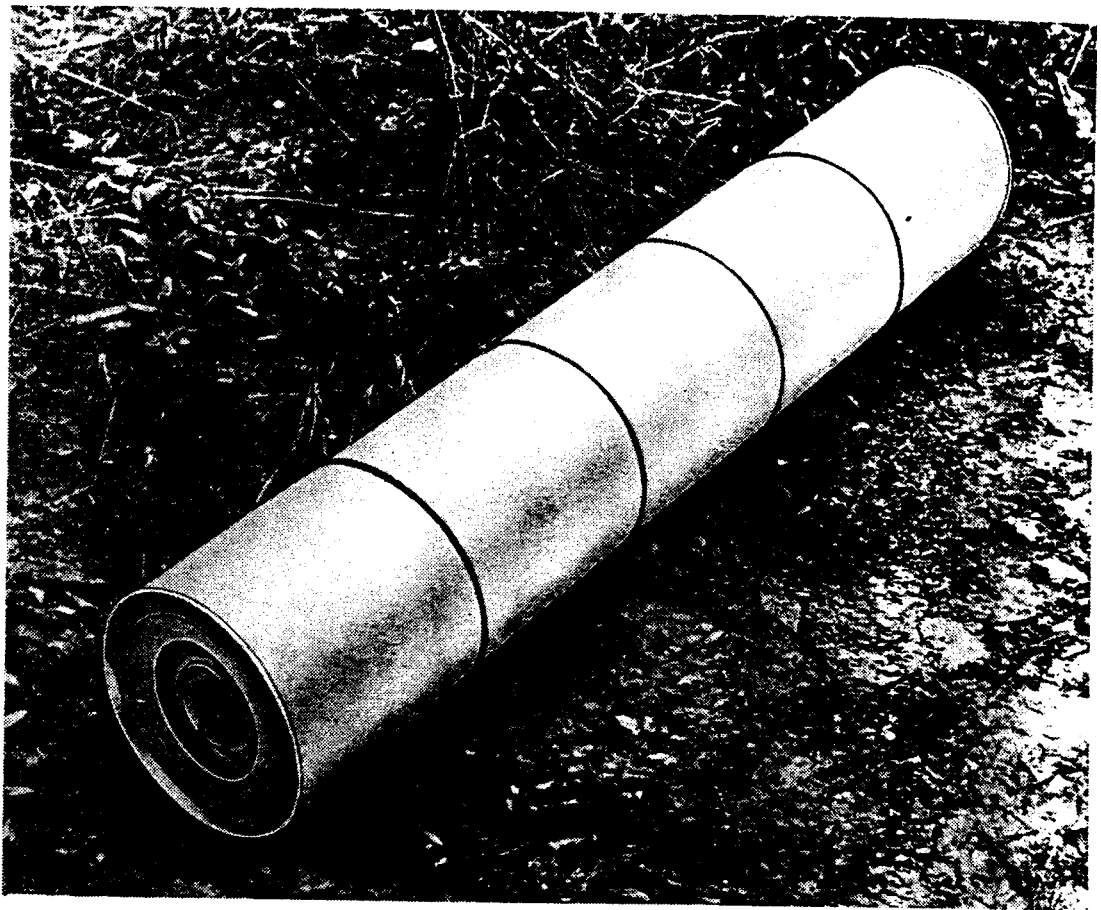

Figure 2. Smoke pots stacked horizontally.
c. *Chain Ignition.* A number of M1 or M5 smoke pots can be arranged to ignite in succession, thus providing smoke for a longer period than is possible using a single pot. To accomplish chain ignition, the pots can be placed in stacks (fig. 1) and one pot in the stack ignited, or they can be laid on their sides (fig. 2), end to end, and one pot ignited. Prior to stacking, the outer covers must be removed from all pots so that the igniting devices are exposed. Whether the pots are stacked vertically or laid on their sides, the heat generated by one burning pot in a series ignites the adjacent pot. When M1 smoke pots are stacked vertically, supports must be provided for stability. The M5 smoke pot is especially designed for vertical stacking, and because the bottom of one pot fits snugly into the top of the one below it, no support is required. The total burning time of a series of smoke pots ignited by chain ignition is slightly less than the sum of the